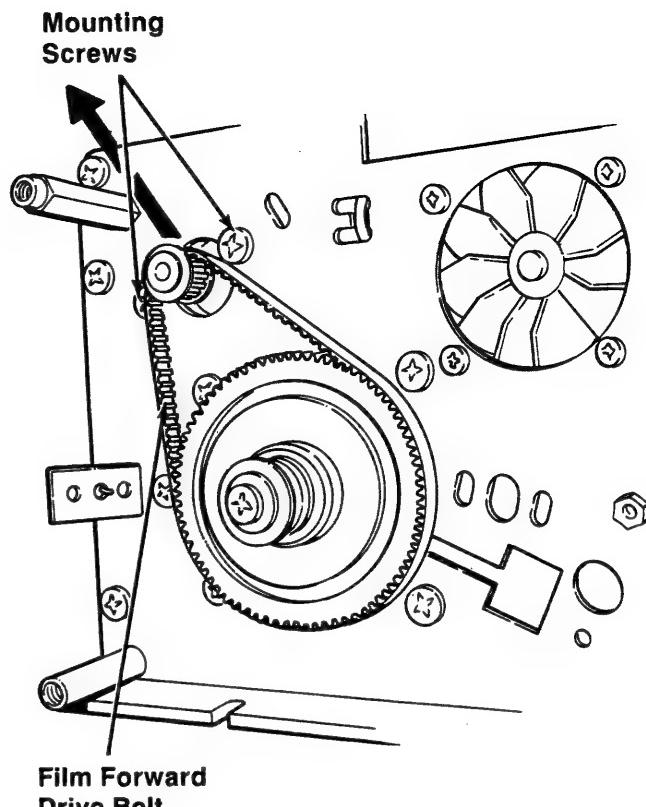

Figure 3-3A
6. Place a Ruler near the center of the Film Forward Drive Belt (Figure 3-3A) and push down. The deflection should measure 4 mm to 5 mm (0.16 in. to 0.20 in.).
1. Loosen the mounting screws securing the Film Forward Motor (Figure 3-3A).